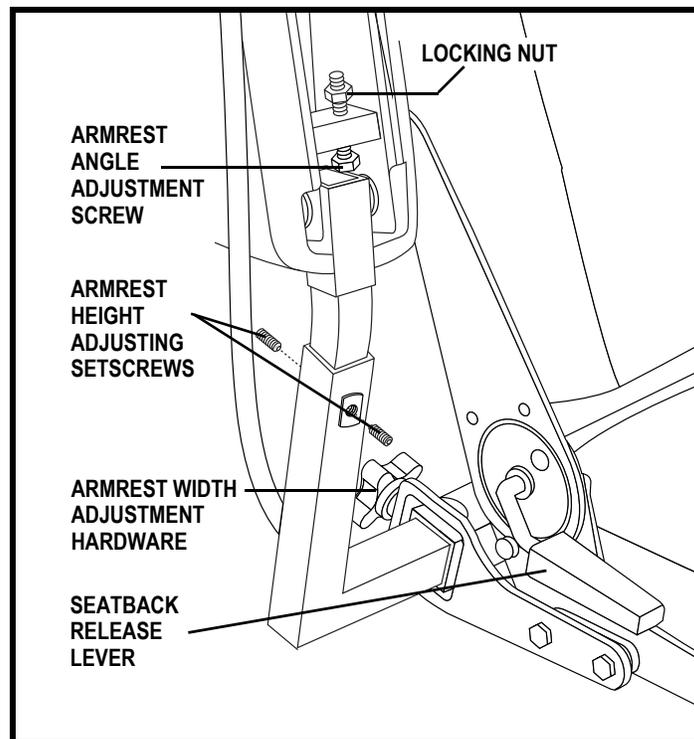

Figure 13. Armrest and Seatback Adjustments
NOTE: The most common configuration of the seat adjustment hardware is shown in figure 13. Your product may be equipped with a different configuration. All configurations operate in a similar manner.
If your power chair is equipped with a manual recline seatback, you can adjust the seatback angle with the seatback release lever. The lever is located on the right side of the seat base. See figure 13.
1. Locate the adjustment hardware on each side of the armrest receiver bracket. See figure 13.
1. Lift the armrest straight up so that it is perpendicular to the floor. See figure 13.